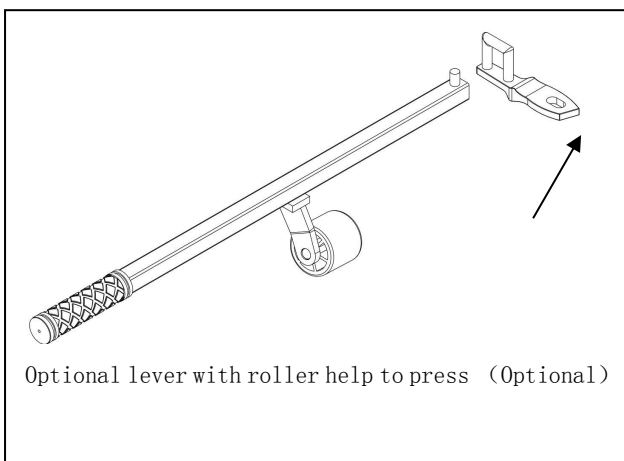

Fig. 16
- Optional lever is recommended to mount low-profile and run-flat wheels. As Fig.16 the arrow sign show, this parts can be installed onto mount/demount head.(Washer on the mount/demount head should be replaced when this optional lever is used.)